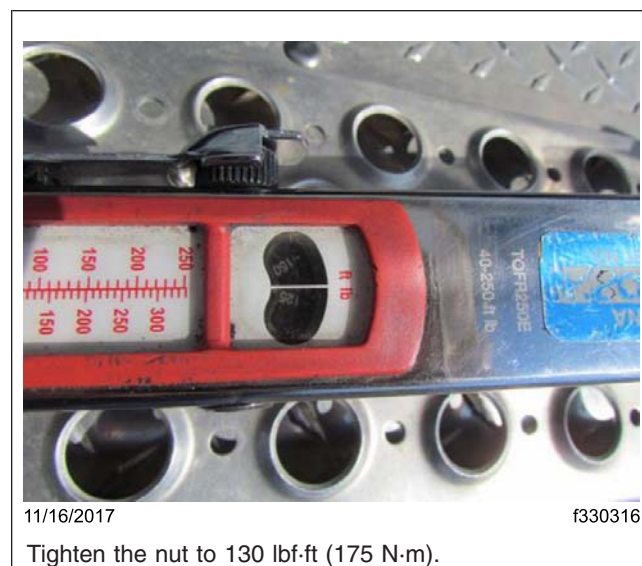
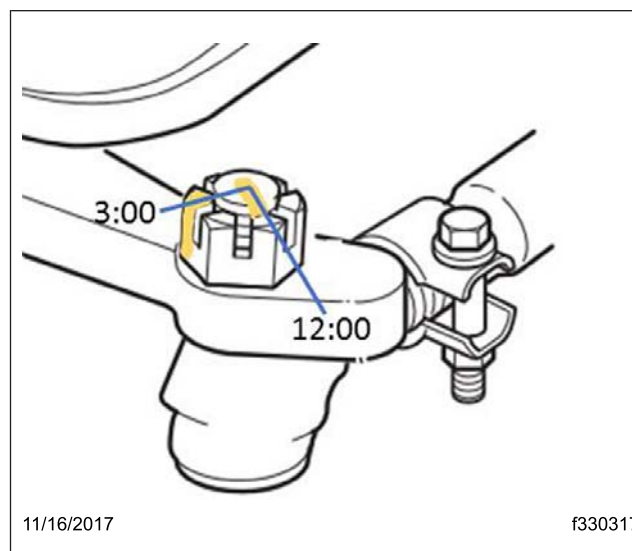

Fig. 5, Tightening the Nut
Fig. 6, Example of Nut Rotation Amount
8. If you found rotation of the nut before you reached 130 lbf-ft (175 N·m), now tighten the nut to 130 lbf-ft (175 N·m). Using the paint mark, record the rotation of the nut in Step 2 of the inspection form. Example: Using the paint mark as the 12:00 position, if the nut rotates 1/4 turn to reach 130 lbf-ft (175 N·m), document the nut rotation at the 3:00 position. See Fig. 5 and Fig. 6.